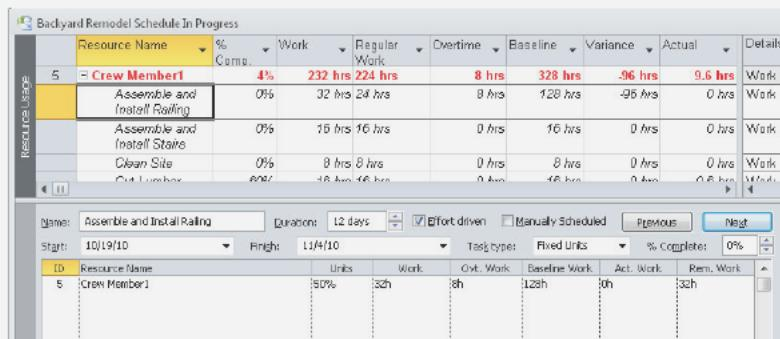

FIGURE 13-6 The Work value equals the hours of regular and overtime work.
3. Type the number of overtime hours for the assignment in the Ovt. Work field, as shown in Figure 13-6.